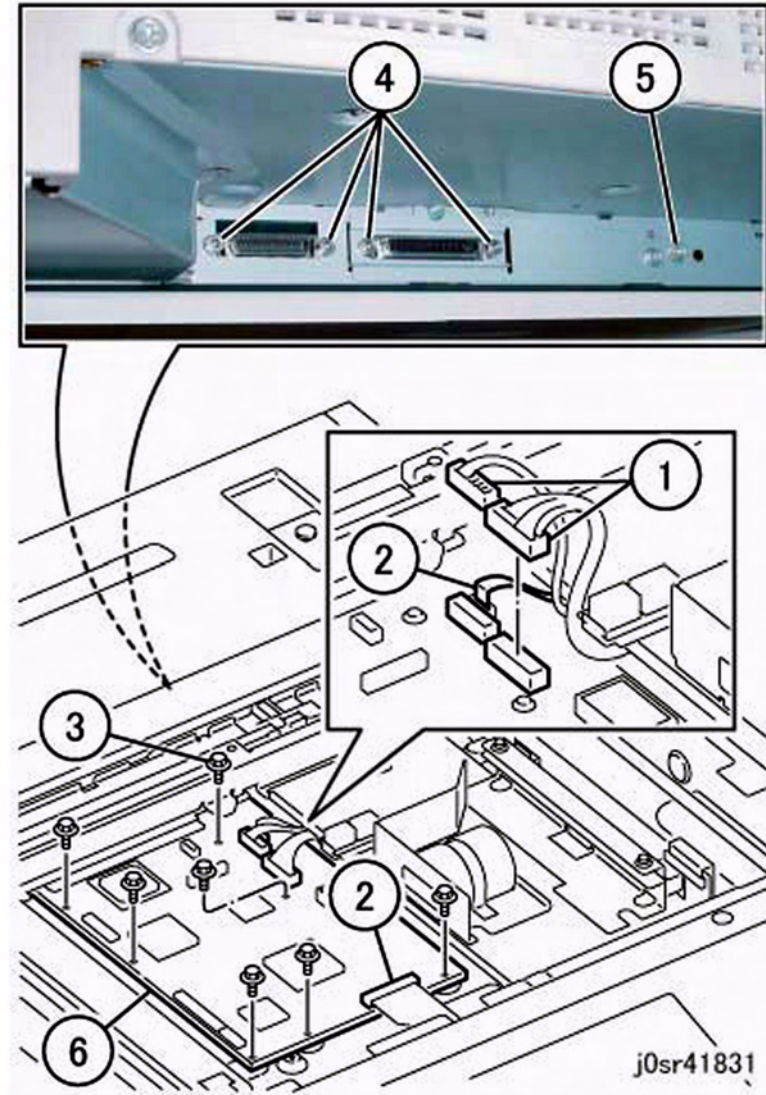

Figure 3 Disconnecting the connectors
4. Remove the IIT/IPS PWB Assembly (Figure 3).